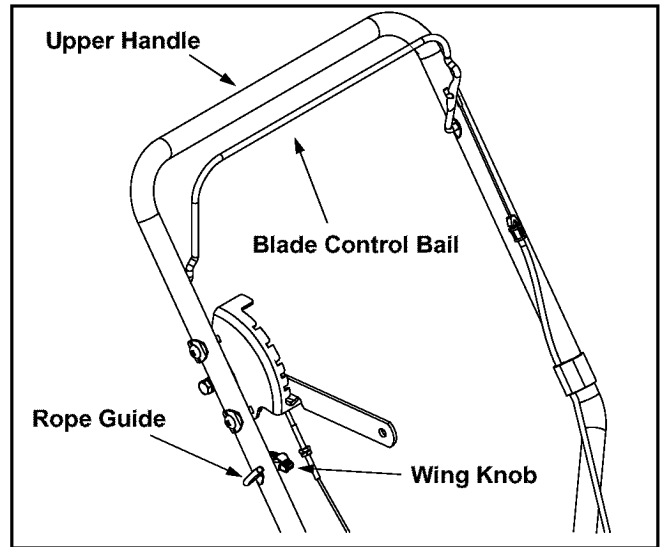

Figure 3
- Loosen, but do NOT remove, the wing knob which secures the rope guide to the upper handle. See Figure 3.
NOTE: The starter rope will not pull out of the engine unless the blade control bail (refer to Figure 3) is depressed against the upper handle.